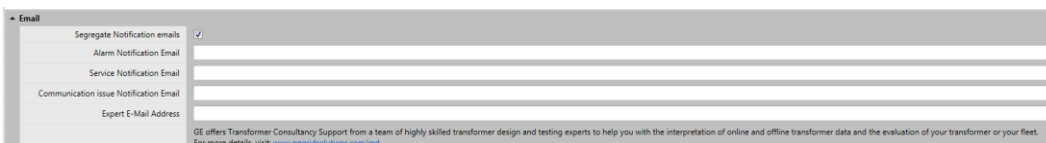

Figure 3-55: Email – Segregate Notification emails
- **Segregate Notification emails:** allows the user to define the recipients of the emails based on the notification type. Select the checkbox to specify the three types of notification address as shown in Figure 3-55.